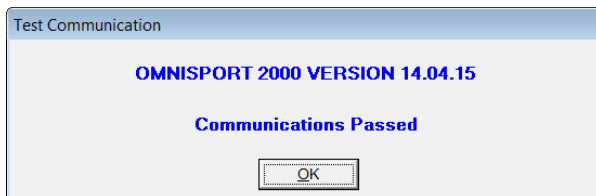

Figure 6: Communications Passed
7. Go to **Interfaces > Track Button Timer - OmniSport 2000 > Test Communication**. When all connections and configurations are correct, the *Communications Passed* message appears with the version of firmware in the OmniSport 2000 console (**Figure 6**). Click **OK**.